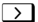

Figure 2 Key Diagram
- Most keys have three functions: one printed in white, a yellow-shifted-function printed above the key, and a blue-shifted function printed on the angled face of the key (See Figure 2).